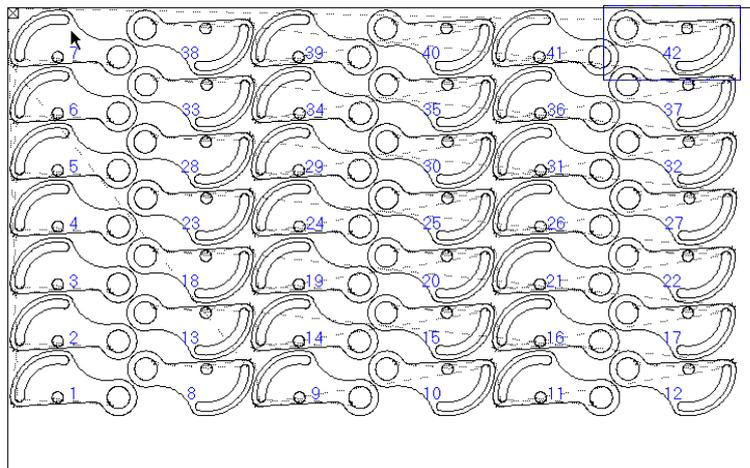

Figure 2-5
- (5) Click “Jostle” in menu “AutoNest”, thus nest result can be got as shown in Figure 2-5.